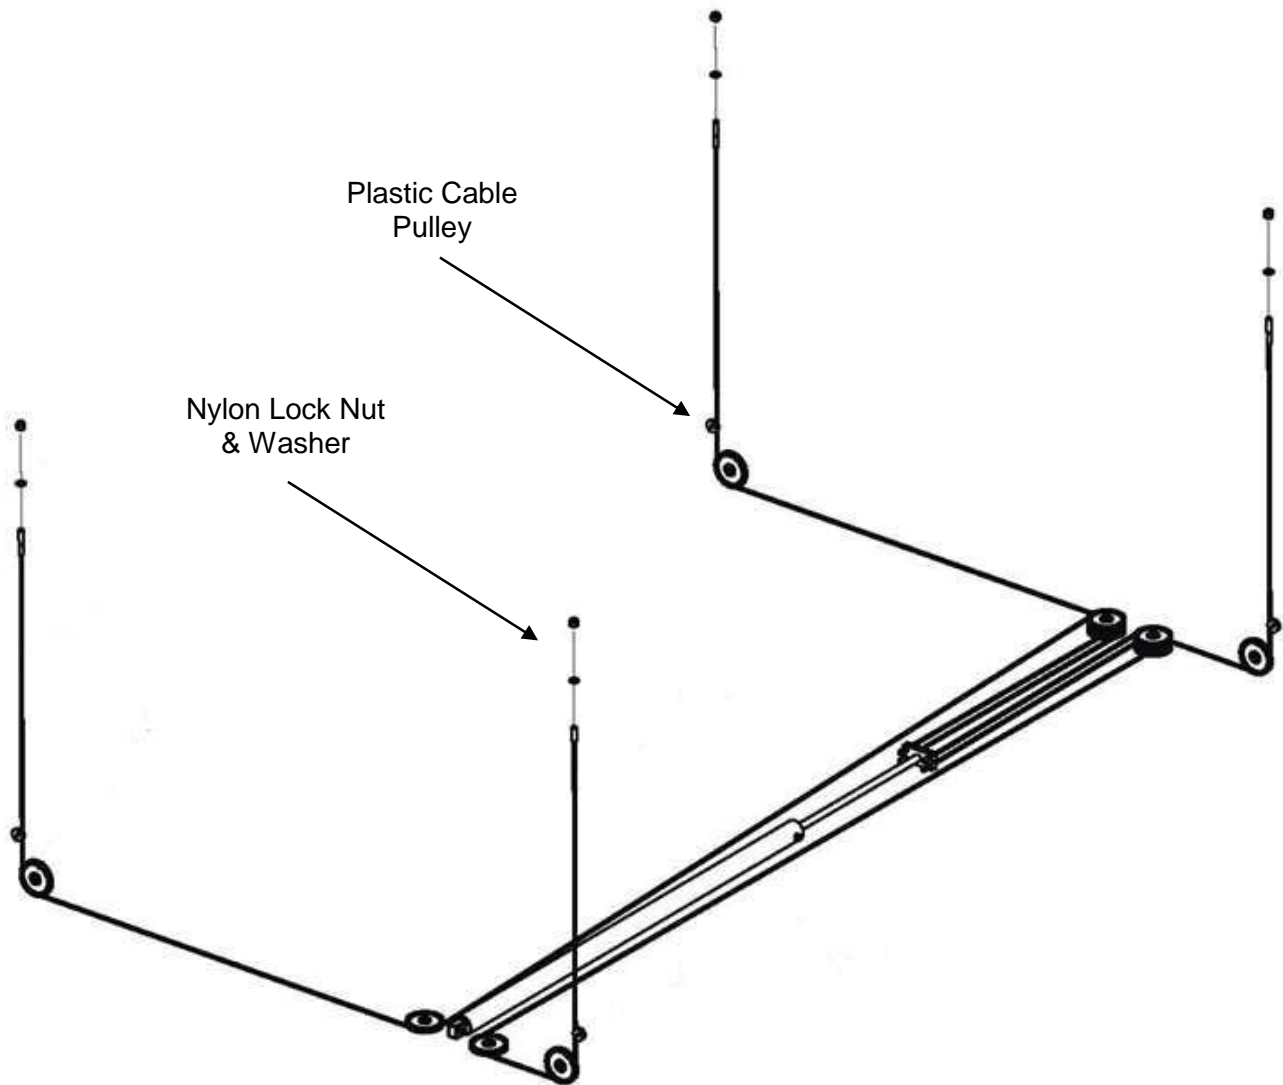

Fig. 7
17. Pull the slack for each Cable from the corner ends of the Mainside Runway and route the appropriate Cable(s) to each Column Top Caps, while ensuring that the Plastic Cable Pulley (#95) is between the Cable and the Lock Ladder as shown in Fig.7. This will allow the secondary Slack Cable Lock to function properly. See Fig.7 below for Cable routing installation.
24. Raise lift off all locks until cables are supporting the lift. Adjust the Cable’s Nylon Lock Nut as shown in Fig 7, located on the top of each post until lift is level on crossbeams and runways. This will ensure the lift travels up and down level.